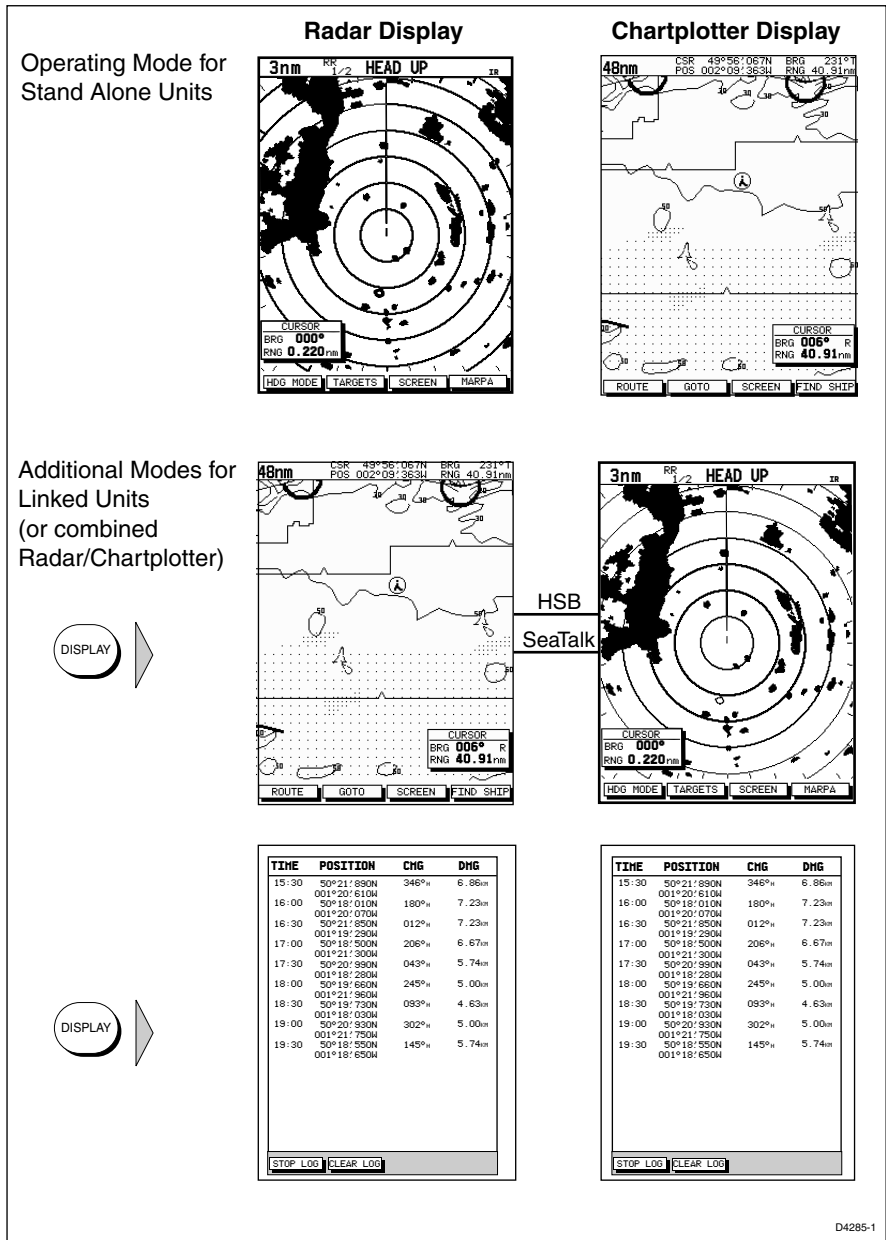

Figure 1-2: Full Screen Operating Modes
- **Chart display, Radar display:** If data is available as a function of the combined display unit it can be displayed full screen, as shown in *Figure 1-2*, or in a half-screen window.